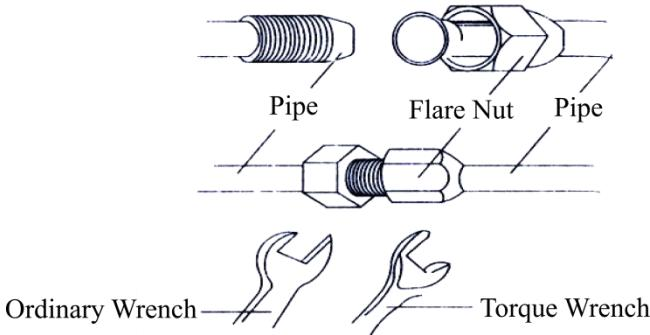

Fig.18
b. After that, tighten the screw by the torque wrench until it clatters (as shown in Fig.18).